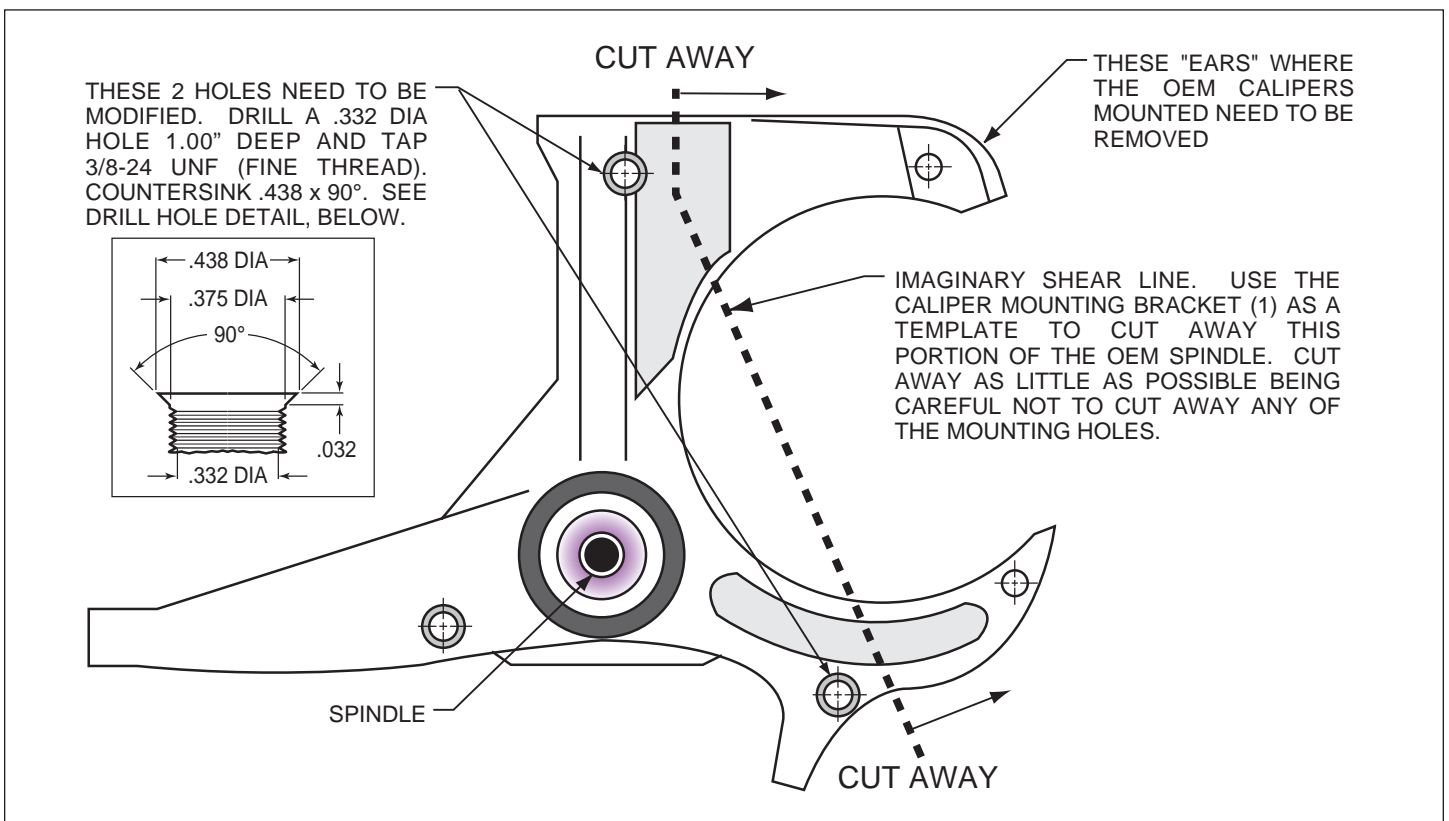

Figure 1. Steering Arm / Spindle Modifications
NOTE: These modifications should be performed by a qualified machinist and completed before assembly of the Wilwood disc brake kit begins. Refer to Figure 1 as necessary (numbers in parenthesis refer to the parts list). Only one view of the steering arm/spindle is shown, but the modifications need to be performed on both steering arm/spindles.
The two OEM holes that will be used to mount the caliper mounting bracket (1) need to be modified. Drill a .332 diameter hole through both holes, Figure 1, then tap 3/8-24 UNF (fine thread). Countersink the holes to .438 x 90°. The "ears" that protrude to form a "C" shape need to be removed to facilitate the installation of the Wilwood kit. Using the bracket as a template, mark two cut marks on the steering arm. Remove as little as necessary from the "C" shape, being careful not to cut away any of the mounting holes required to bolt on the bracket.
• Remove the two pad retaining pins from the caliper (16) by carefully popping out the pin retaining clips and sliding out the pins. Insert the brake pads (20) into the caliper from the bottom, Figure 1 and Photo 9, with the friction material facing the rotor. Secure the brake pads in place with the pad retaining pins and clips, Photo 10. Reinstall the caliper onto the caliper mounting bracket. Apply red *Loctite*® 271 to bolt threads (18), and torque to 40 ft-lb.